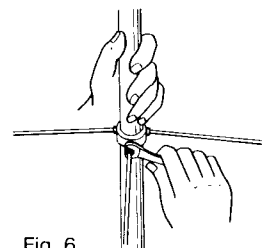

Fig. 6
- 7) Attach three radial elements as shown in Fig. 6.